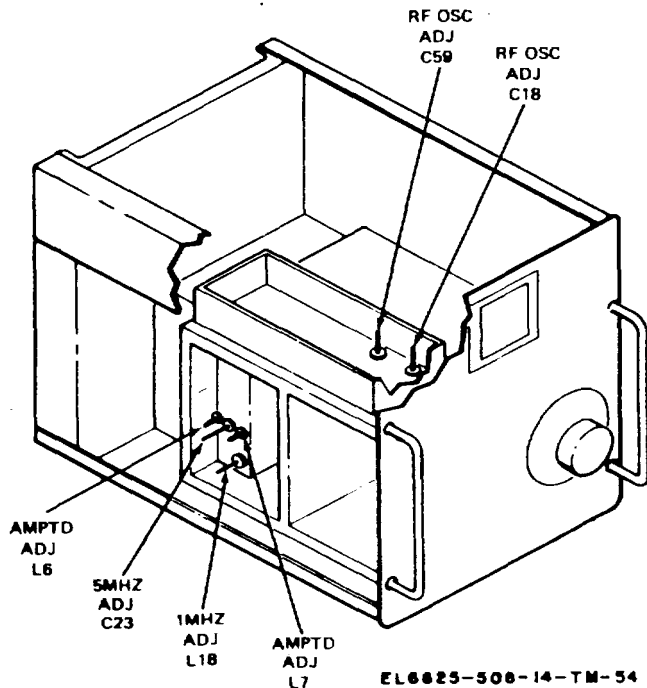

Figure 6-25. Crystal calibrator and rf oscillator, adjustment location.
(4) Adjust L18 (fig. 6-25) in clockwise direction. Two separate beat frequencies should be heard in headset within one full turn of L18; adjust L18 to audible null in first beat note obtained.
(5) Set XTAL CAL switch at 5 MC.
(7) Refer to figure 6-25. Adjust 5 MHz ADJ C23 to obtain a display of 5 MHz on AN/USM-207.
(9) Set signal generator's FREQUENCY RANGE at E and MEGACYCLES dial at 360 MHz.
(10) Refer to figure 6-25. Adjust AMPTD ADJ L6 to obtain loudest beat note; then slightly decrease loudness; adjust L7 in exactly the same manner.
(10) Refer to figure 6-25. Adjust C59, RF OSC ADJ, for a 480 MHz display on the frequency counter. If this indication cannot be obtained, even with C59 maximum capacitance (slug turned all the way in), back C59 out one turn, and adjust C18 to obtain the 480 MHz display. Now check the signal generator's MEGACYCLES dial accuracy at 216 MHz, range D; 95 MHz, range C; 44 MHz, range B; and 22 MHz, range A. If, at these settings, dial accuracy is within specifications, proceed to step (11). If not, perform the more complete rf oscillator adjustment procedure given in paragraph 6-1 lj.
(11) Check the signal generator's MEGACYCLES dial against the frequency counter at 10 MHz, band A; 20 MHz, band B; 40 MHz, band C; 90 MHz, band D; and 210 MHz, band E. Refer to NOTE, in f above. If dial is inaccurate, repeat step (10). If the dial still does not meet specifications, the signal generator must be returned to the depot.
(1) These procedures are to be followed if those outlined in preceding subparagraph i step (11), are not sufficient to calibrate the FREQUENCY DIAL; they must be followed if the D and/or E oscillator coils have been replaced. Refer to figure 6-25. If C59, RF OSC ADJ, is adjusted to calibrate the high frequency end of range E, it is likely that the remaining four coils will have to be adjusted.
(6) Set FREQUENCY RANGE switch at E, and observe frequency counter display. If the indication is not 210 MHz, set the switch between E and D, and move loop again. Continue these procedures until the frequency counter displays 210 MHz.
(7) Set signal generator's MEGACYCLES dial at exactly 480 MHz. If oscilloscope does not display 480 MHz, refer to figure 6-25, and adjust C59 until it does.
(8) Carefully observing previous cautions, repeat steps (5), (6), and (7) to obtain the best compromise between the low and high end frequencies.
(9) Refer to Section V, table 6-4, and perform the frequency dial calibration and Rf Oscillator Drift Tests. If any portion of range E is out of specifications, the signal generator must be returned to the depot for manufacture of a new MEGACYCLES dial.
(10) Refer again to Section V, table 6-4, and perform the frequency dial calibration and rf oscillator drift tests for ranges A through D. If test results so indicate, adjust range D oscillator coil. Refer to paragraph 6-1lg; remove casting side cover, and connect AN/USM-207 electronic frequency counter INPUT to signal generator's UNCAL RF OUTPUT connector.
(11) With signal generator's FREQUENCY RANGE switch at D, set MEGACYCLES dial at exactly 216 MHz. Then, in order to remove high voltage from turret, set FREQUENCY RANGE switch between the D and C ranges.
(12) Loosen ring, on range D plastic coil form with coil dope thinner, and reposition ring. Set FREQUENCY RANGE switch at D, and observe frequency counter display. Continue to reposition ring, on a trial and error basis, until the frequency counter displays; 216 MHz. Do not reposition ring unless the FREQUENCY RANGE switch is between ranges.
(13) With FREQUENCY RANGE switch still at D, set MEGACYCLES dial at 90 MHz. At this setting the frequency counter should indicate 90 MHz, plus or minus 5%. If not, repeat 216 MHz adjustment for the best compromise, within specifications, between the high and low end frequencies. However, if specifications cannot be met, the signal generator must be returned to the depot.
(14) Cover ring with coil dope.